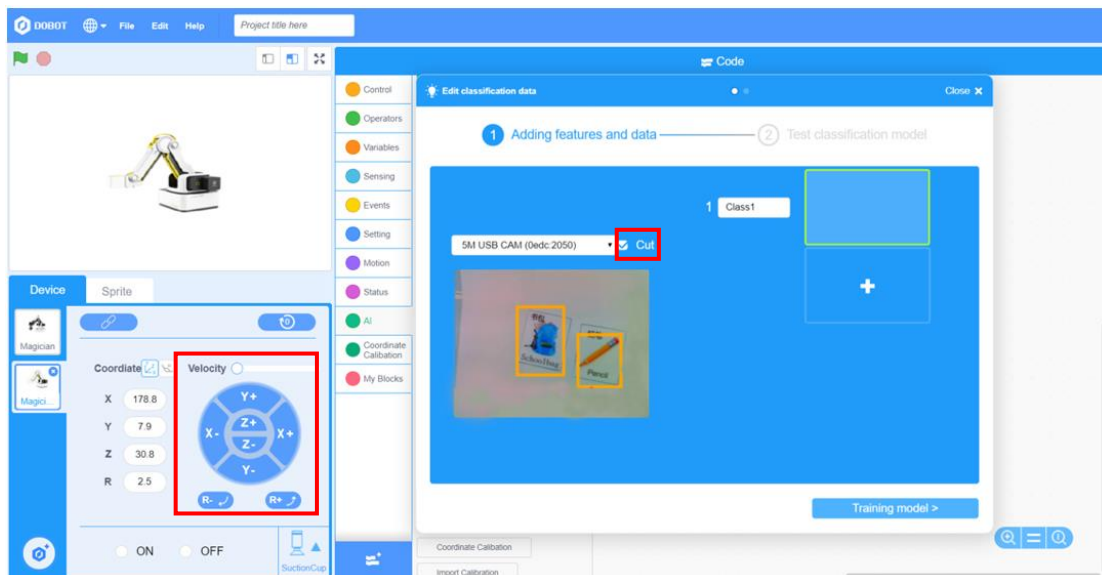

Figure 4.4 Adjusting the camera position
Step 6: Click the image segmentation icon, move the robotic arm by using the robotic arms control panel on DobotScratch, and adjust the camera position. Note that each stationery card is under the camera, and bears a yellow segmentation icon, as shown in Figure 4.4.